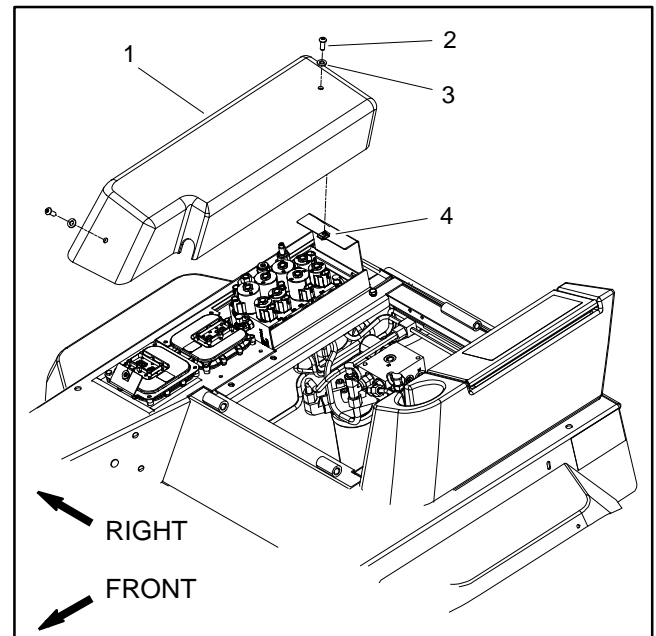

Figure 46
1. Make sure hydraulic oil is at normal operating temperature by operating the machine under load for approximately ten (10) minutes. Make sure the hydraulic tank is full.
3. Remove controller cover to gain access to lift/lower manifold (Fig. 46).